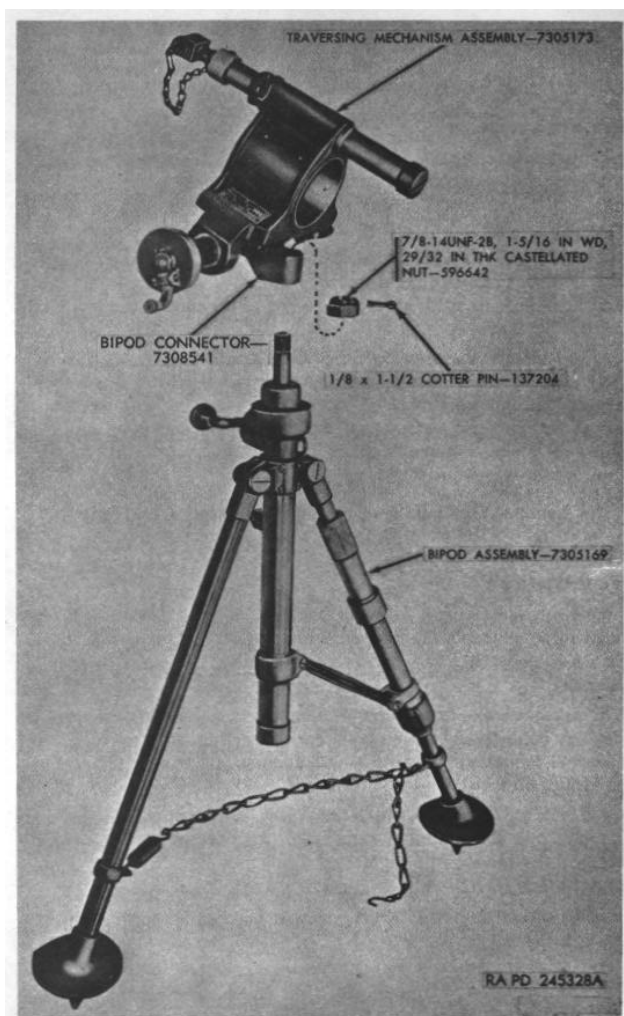
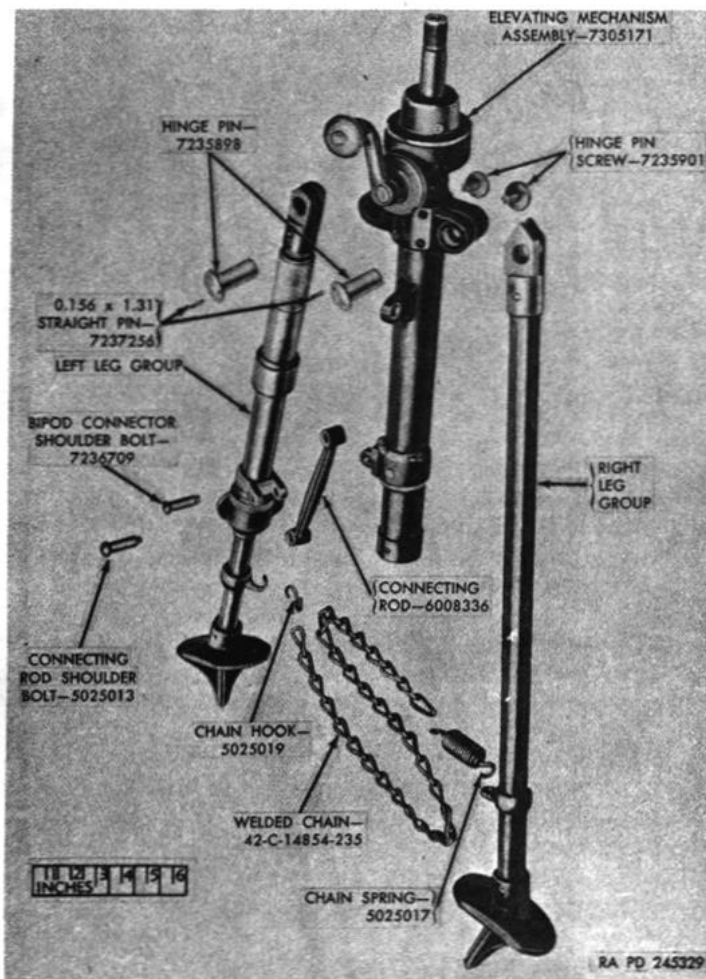

Figure 41. 81-mm mortar mount M23A1.
Figure 42. Bipod assembly 73505169-81-mm mortar mount M23A1-exploded view.
a. Remove cotter pin and unscrew castellated nut (fig. 41). Remove bipod assembly from bipod connector of the traversing mechanism assembly (fig. 41) by carefully tapping it with a soft metal hammer.
b. Remove stake and unscrew connecting rod and bipod connector shoulder bolts from both ends of the connecting rod (fig. 41). Remove welded chain, chain hook, and chain spring from right and left leg groups (fig. 42).
c. Unscrew the hinge pin screws (fig. 42) from the hinge pins and carefully pry the hinge pins from the elevating mechanism assembly to withdraw the right and left leg groups. Do not remove straight pins (0.156 x 1.31), unless they are to be replaced.
d. To disassemble the left leg group, proceed as outlined in (1) through (5) below.
0.156 x 1.31 straight pin (E) through left leg-foot and left leg body.
(5) Slide adjusting nut (C) (external threaded end leading) on left leg body (D). Screw adjusting nut into adjusting nut locking ring (L) and secure with locking ring setscrew (M).
(6) Secure rod end clevis (A) to left leg body (D) with new 0.156 x 1.31 straight pin (B).
c. Secure left leg group and right leg group to elevating mechanism assembly with hinge pins and hinge pin screws (fig. 42). Make certain that hinge pin is held secure by 0.156 x 1.31 straight pin through pin hole in hinge pin head. Screw hinge pin screw into hinge pin.
d. Secure connecting rod to left leg group and elevating mechanism assembly with connecting rod and bipod connector shoulder bolts (fig. 42). Stake threaded end of both bolts.
e. Install welded chain with chain hook to left leg group and chain spring to right leg group (fig. 42).
f. Insert threaded end of bipod assembly through bipod connector and secure with 7/8-14UNF-2B, 1 5/16-inch wide, 29/32-inch thick castellated nut and 1/8 x 1 1/2 cotter pin (fig. 41).